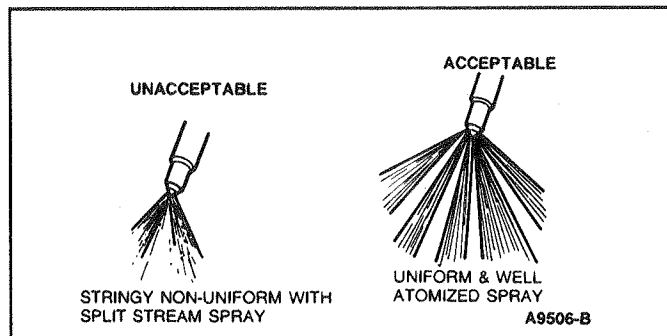

Figure 24 Spray Patterns
7. **Check the spray pattern of the nozzle** (Figure 24) by pumping the tester handle rapidly and observing the spray pattern coming from the orifices. Spray must come from each orifice and be similar in size and consistency. The spray should be well atomized and cone shaped as it comes from the injector nozzle. Injectors showing poor spray patterns should be replaced.